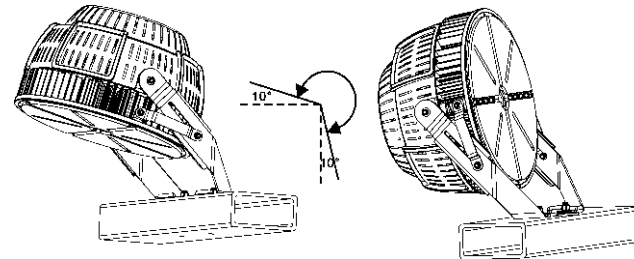

Figure 10
5. According to the need, adjust the projection angle, angle adjustment range (Figure 10);